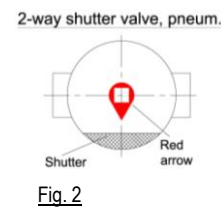

Fig. 2
- With the pneumatic shutter / pig diverter valve, an optical position indication in the form of a red arrow on the square of the pivoted axle, indicates the current shutter position (see Figures 2 / 4 and 6)